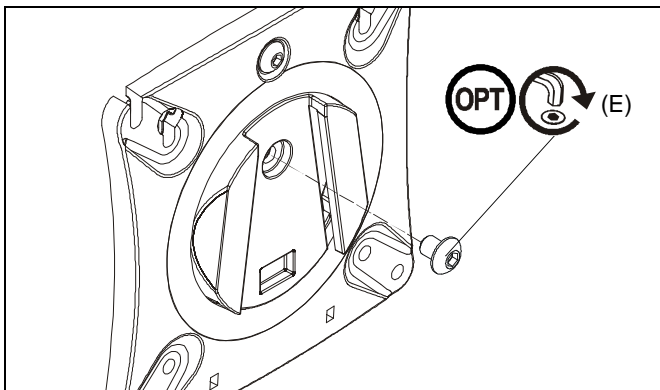

Figure 8
NOTE: (Optional) Rotational adjustment may be locked by installing rotational locking screw (E) into back of faceplate. (See Figure 8)